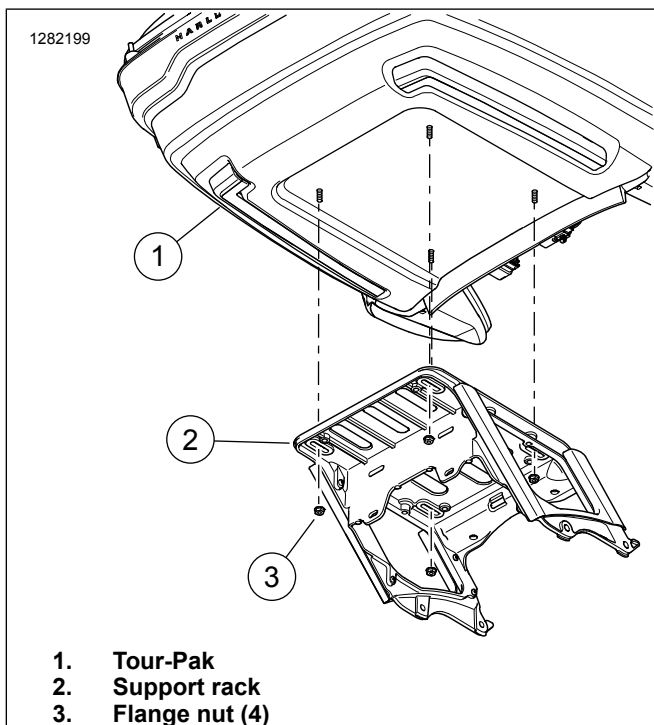

Figure 3. Tour-Pak Mount
- b. See Figure 3. Remove flange nuts (3) securing Tour-Pak to support rack.